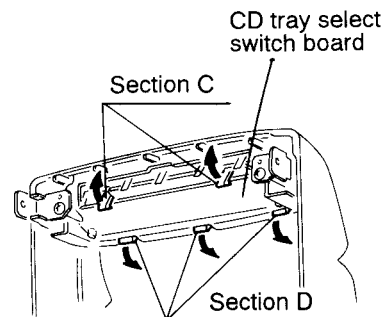

Fig. 5-8
3. Release two claws in section C and three claws in section D as shown in Fig. 5-8 and remove the CD tray select switch board by pressing it from inside to the front.